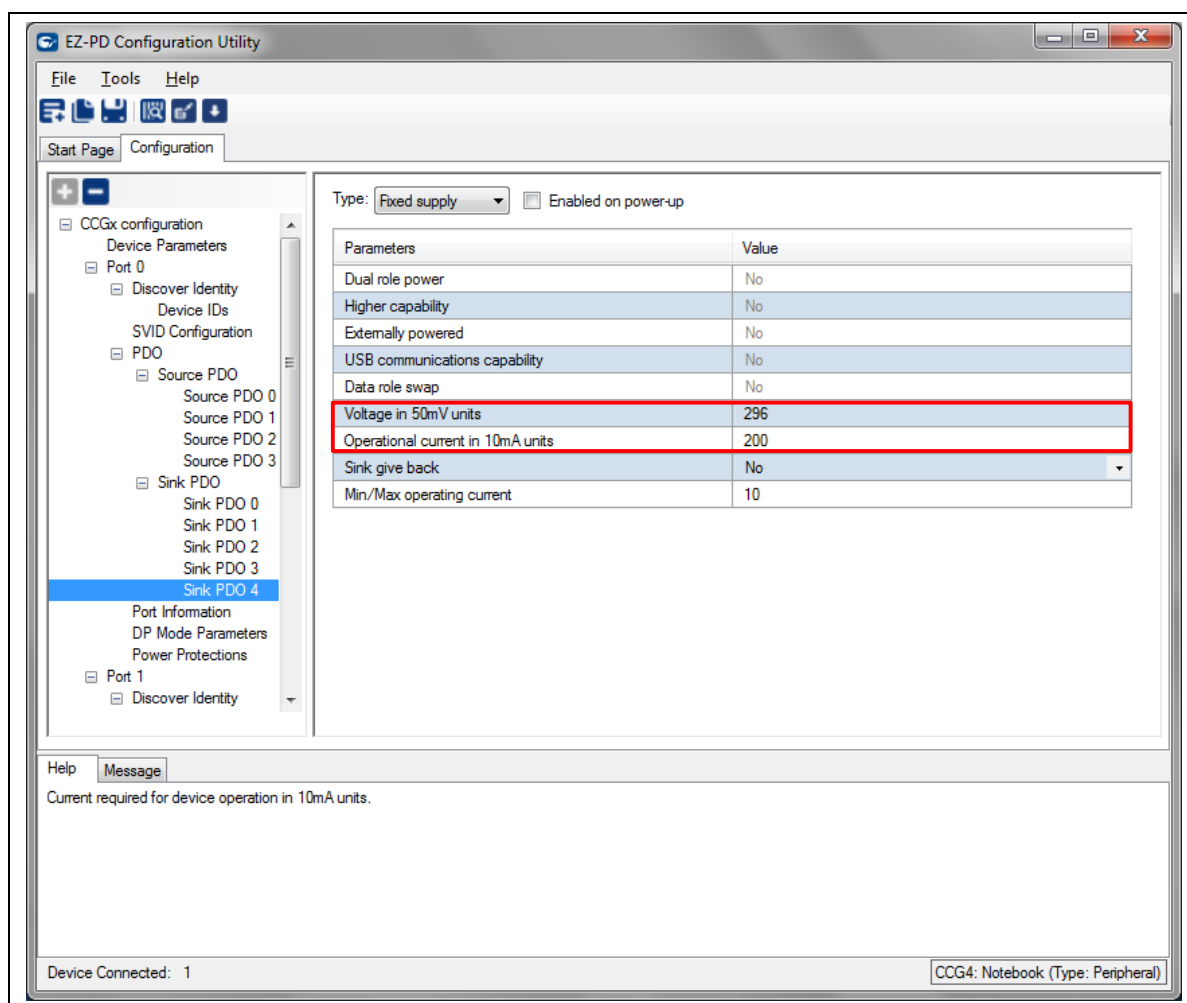

Figure 27 Updating Sink PDO with Required Voltage and Current
6. As the Type-C power adapter supports a custom (14.8 V, 2 A) power profile, update the Voltage in 50 mV units and Operational Current in 10 mA units widgets with 296 (as defined in Table 4 for 14.8 V) and 200 (as defined in Table 5 for 2 A) respectively as shown in Figure 27.